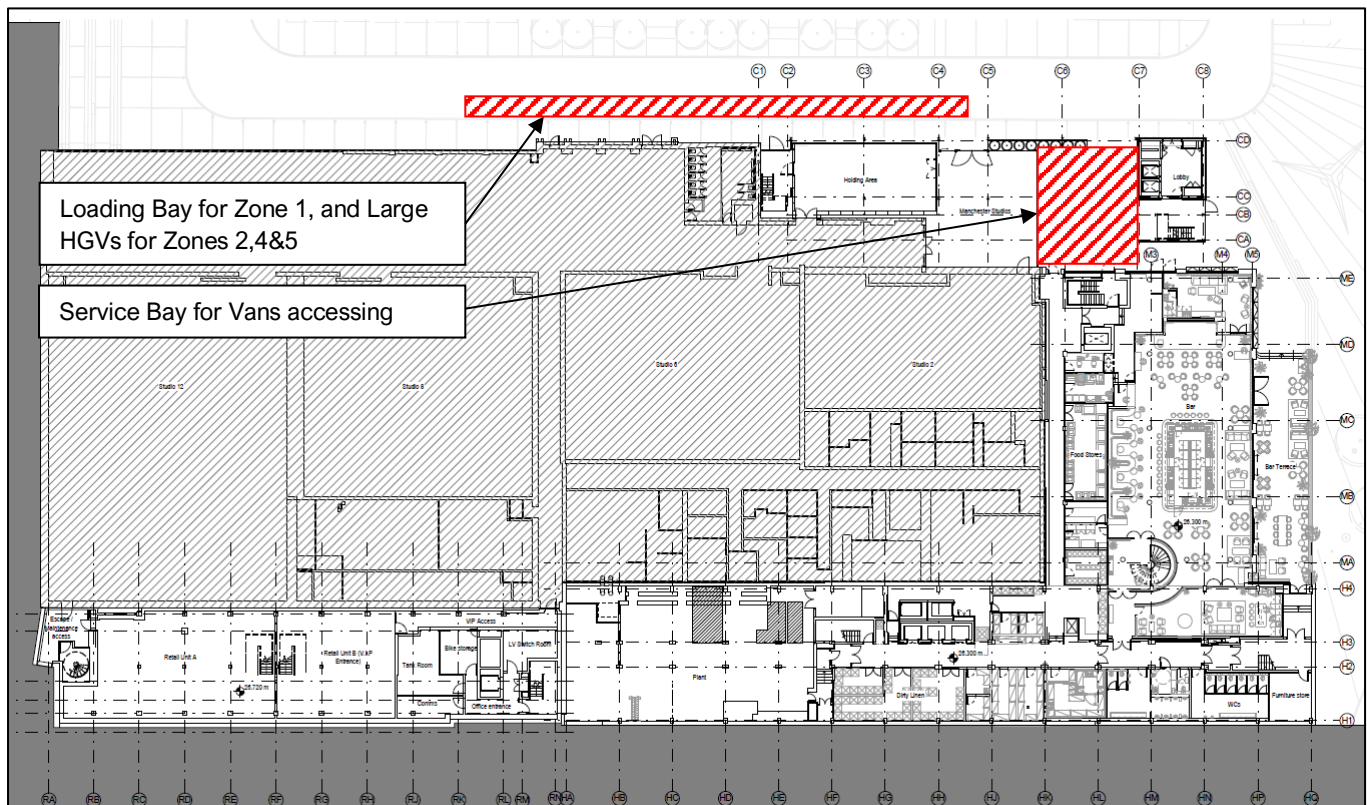

Figure 2.1 Loading Areas on Studio Way
- 2.1 OGS benefits from a long Loading Bay on Studio Way which can accommodate access by large HGVs including 16.5m articulated lorries. There is also an enclosed loading bay within Zone 2 by the Modular Commercial Units where vans and medium sized HGVs are able to reverse into. The location of these loading bays are described in **Figure 2.1**.